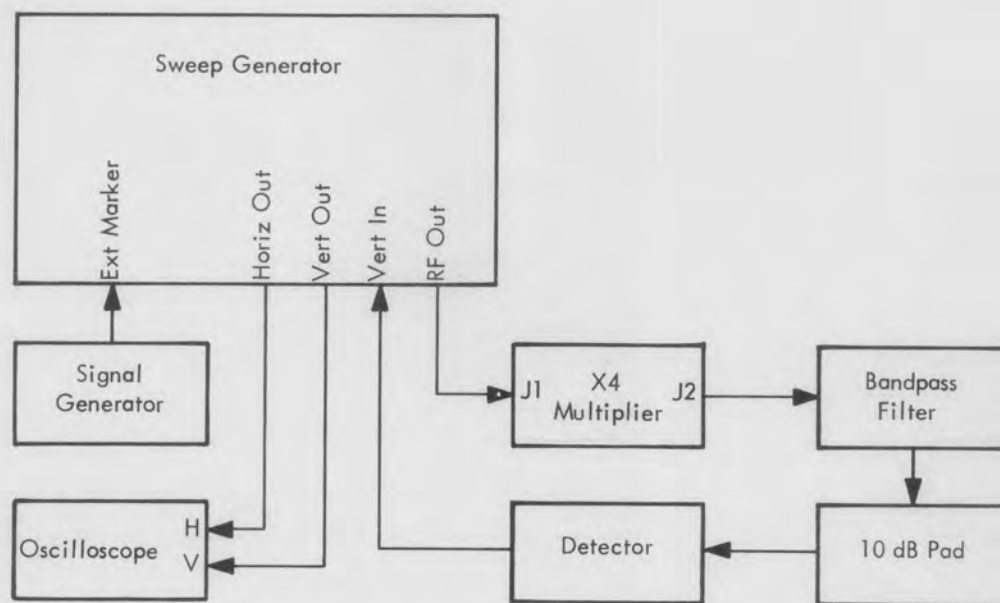

Figure 5-13. Bandwidth Adjustment, X4 Multiplier
- b. Connect test equipment as shown in figure 5-13. Set controls as follows: